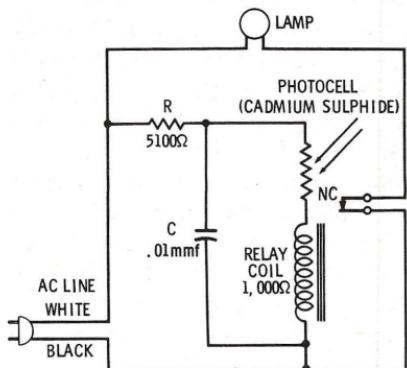
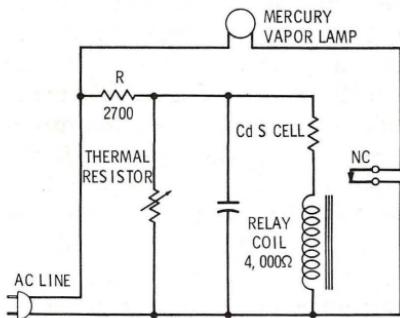

Fig. 8-1. Schematic diagram of a small photoelectric cell.
Fig. 8-3. Schematic diagram of a large photoelectric cell.
Fig. 8-1 shows the schematic of a typical unit. This is one of the smaller types which is mounted on top of a reflector, and uses bulbs with ratings up to 300 watts. Here, the a-c current comes in at the top (white) wire, flows through a 5100-ohm resistor (R) through a cadmium-sulphide cell (abbreviated CdS), then through the relay coil, and back to the line. The CdS cell in this application is a “variable resistor.” The wiggly arrows denote the fact that the resistance is determined by the amount of *light* which falls on the surface. When it is dark, the cell has a high resistance; when light falls on it, the resistance goes down, allowing more current to flow. The actual control of the lamp bulb is done by the contacts of the sensitive relay. These contacts are normally closed, meaning that when the relay has no current through it, the spring holds the contacts closed and the light is on.
Cover the face of the cell and take a resistance reading directly across the terminals. The "dark-reading" should be high. Uncover the cell and let the bench light strike it, the resistance should drop to about 1500-2000 ohms. If all of these readings are correct, the unit should work. Most of these units use a small capacitor (C) across the relay coil and photocell as a filter. If this should be shorted, the relay will not work and the 5100-ohm resistor may be burned up as well. Check the total resistance across the capacitor terminals. This should be the sum of the resistances of the photocell and the relay coil, as in Fig. 8-1. For example, if the cell is covered, you should read about 15,000 ohms. If the capacitor is shorted, you may read 100 to 200 ohms or even a dead short (zero resistance). To make a reliable test, disconnect one end of the capacitor, and recheck the resistance. You should never read any resistance between the leads of a good capacitor. It should be a completely open circuit. If the capacitor is shorted, remove it and take it to a radio-television shop, they can tell you what size it was, by its color code. If this is not decipherable, a 0.01-mfd capacitor at 600 working volts, is a pretty good compromise value, since it is the most common size found in such circuits.
Fig. 8-3 shows the schematic of a larger unit. Although it is exactly like the first in principle, it has some refinements. It is used
The control unit in Fig. 8-1 works almost instantly. There is usually about a 1-second delay between light striking the photocell and the lamp turning on. In the larger unit of Fig. 8-3, there will be a slightly longer delay. This is not due to the control unit, but to the characteristics of a mercury-vapor lamp. The mercury-vapor lamp